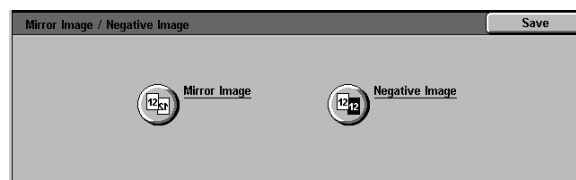

Figure 27: Invert Image screen
- 1 Touch the **Invert Image** button on the Output Formats tab to display the Invert Image screen (Figure 27).